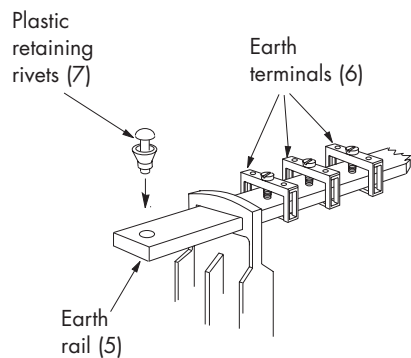

Figure 4.10: Attaching earth rail terminals and rivets
- c) Slide the earth rail (5) through the slots in the of the mounting posts (1) (Figure 4.10).
- d) Fit the earth terminal(s) (6) on the rail (5) (Figure 4.10).
- e) Attach plastic retaining rivets (7) to each end of the earth rail (5) (Figure 4.10).